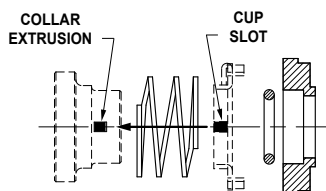

Figure No. 7
- b. Place cup on top of the spring with slot lining up with extrusion on drive collar. (see figure no.7)
- d. Check to make sure that slot in cup is still aligned with the extrusion in the drive collar. (see figure no.7)